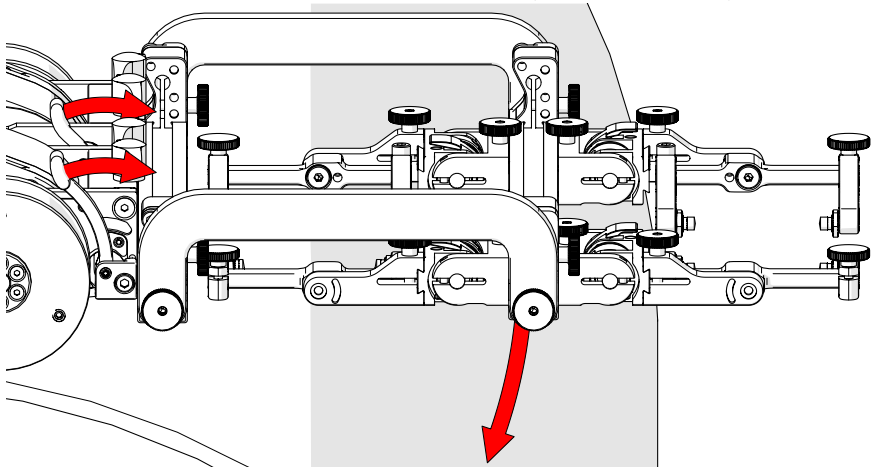
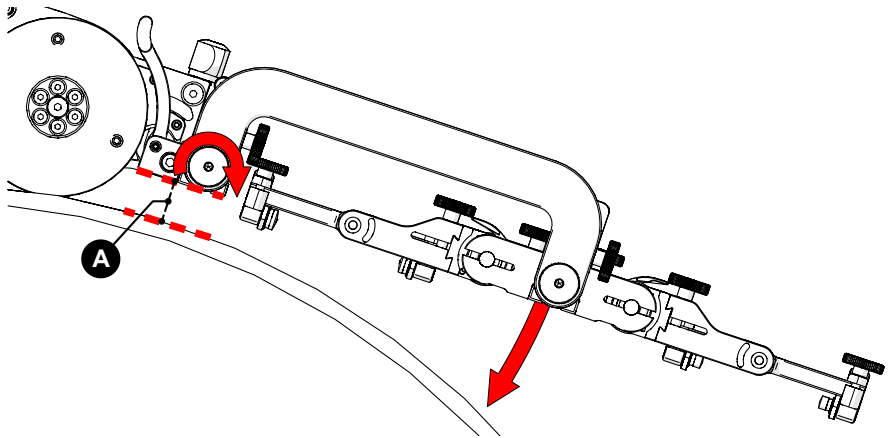
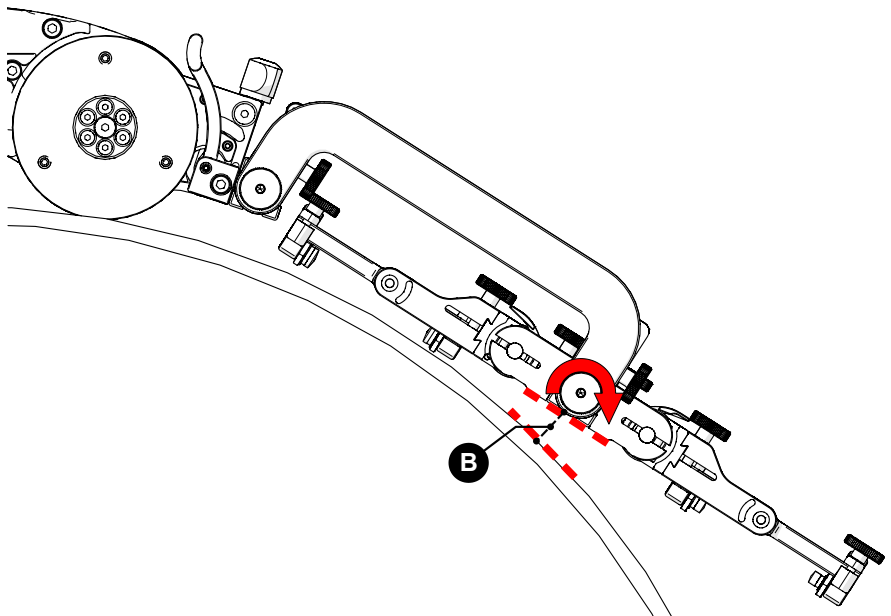

Fig. 240 - Align swivel mount with scan surface
Fig. 241 - Set rear rotational adjustment knob
Fig. 242 - Align probe holder tangent with scan surface
4. Release the two swivel mount levers (Fig. 240) to position the swivel mount parallel to the scan surface (Fig. 241). When alignment with scan surface is achieved, lock the crawler swivel mount levers.
5. Loosen the rear rotational adjustment knob to lower the front frame bar of the low profile frame towards the inspection surface (Fig. 241). Ensure gap **B** (Fig. 242) is no smaller than gap **A** (Fig. 241).
6. Loosen the front rotational adjustment knob (Fig. 242) to align the frame bar parallel with the scan surface (Fig. 242).